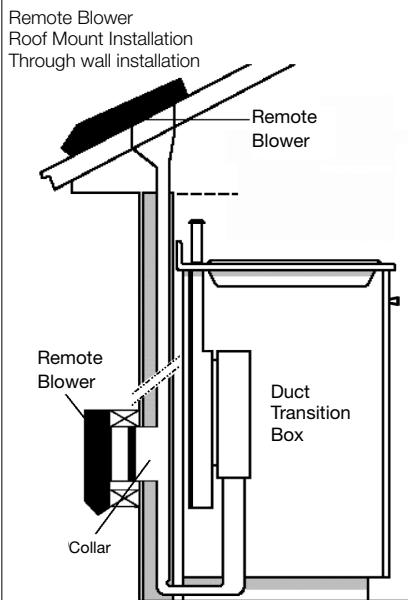

Fig. 3
F. Investigate potential ductwork routes and choose the shortest possible route from the unit to an outside wall or to the roof via an inside wall and attic. For guidance, typical ducting installations are shown in figures 3 through 6. Installation in island locations will require under floor ducting. Peninsula locations usually require ducting laterally through cabinets or under cabinet toe spaces. Consider potential interferences to ductwork from building framing (floor joists, wall studs, etc.) and utilities (electrical wiring, water, gas, or sewer lines, etc.).
Figures 3 through 6 are examples of possible ducting